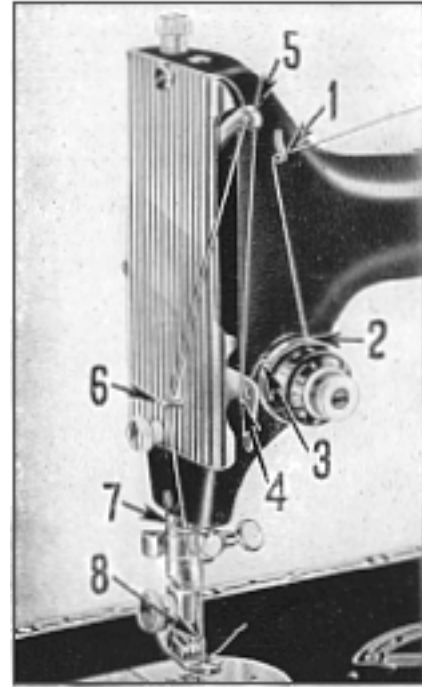
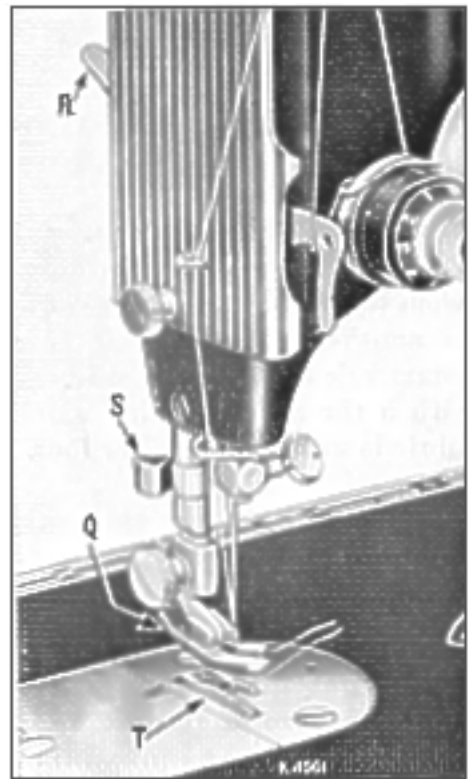

Fig. 14
Fig. 23 To Start Sewing
See Fig. 14. Place spool of thread on spool pin. Raise take-up lever **5** to its highest point. Lead thread into thread guide **1**, down and from right to left between tension discs **2**, into the loop of the take-up spring **3**, under the slack thread regulator **4** (**not through the eye in the thread regulator**), up and from right to left through hole in take-up lever **5**, down through guide **6** on the face plate, down through the lower wire guide **7**, from **left to right** through the eye of the needle **8**.
Be sure to have thread take-up lever **5**, **Fig. 14** at its highest position.
Place the material beneath the presser foot **Q**, **Fig. 23**, then turn the hand wheel to bring the point of the needle into the material, then lower the presser foot by means of presser bar lifter **R** and start to sew.
Stop the machine with the thread take-up lever **5, Fig. 14** at its highest point. Raise the presser foot by means of presser bar lifter **R, Fig. 23**, draw the fabric back and to the left and sever the threads on thread cutter **S, Fig. 23**. Place ends of threads under presser foot.
**Caution:** When the machine is not in use, raise the presser foot by means of presser bar lifter **R** to prevent injury to the presser foot and the feed **T, Fig. 23**.